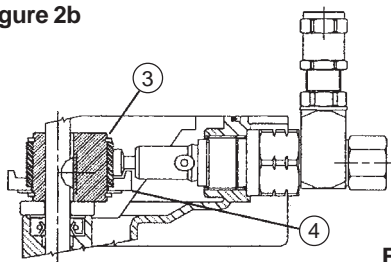

Figure 2c
5. Rotate cartridge down (figure 2c) engaging mushroom head between cam 3 and retracting ring 4.